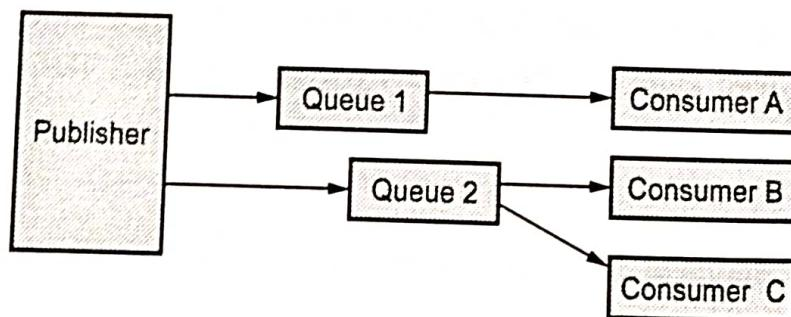

Fig. 4.2.3 Push-Pull model
- Data procedure push the data to queues and consumers pull the data from the queues. Fig. 4.2.3 shows push-pull model.